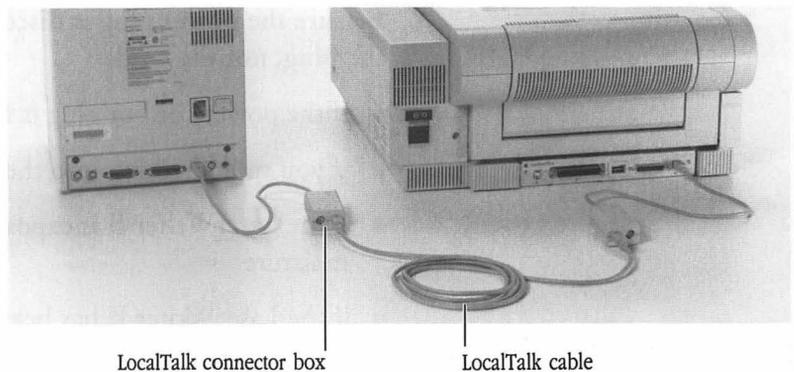

Figure 1-18 The LaserWriter II connected to a Macintosh
As shown in Figure 1-18, the LocalTalk port is on the right side of the connector panel on the back of the LaserWriter II.
4. Connect the two connector boxes with a LocalTalk cable. (See Figure 1-18.)